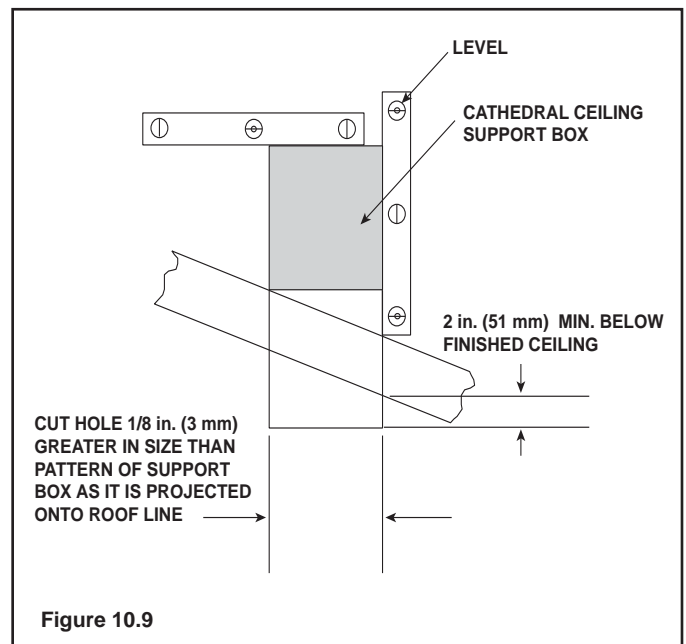

Figure 10.9
- Lower the support box through the hole in the roof until its bottom is at least 2 in. (51 mm) below the ceiling (Figure 10.9).